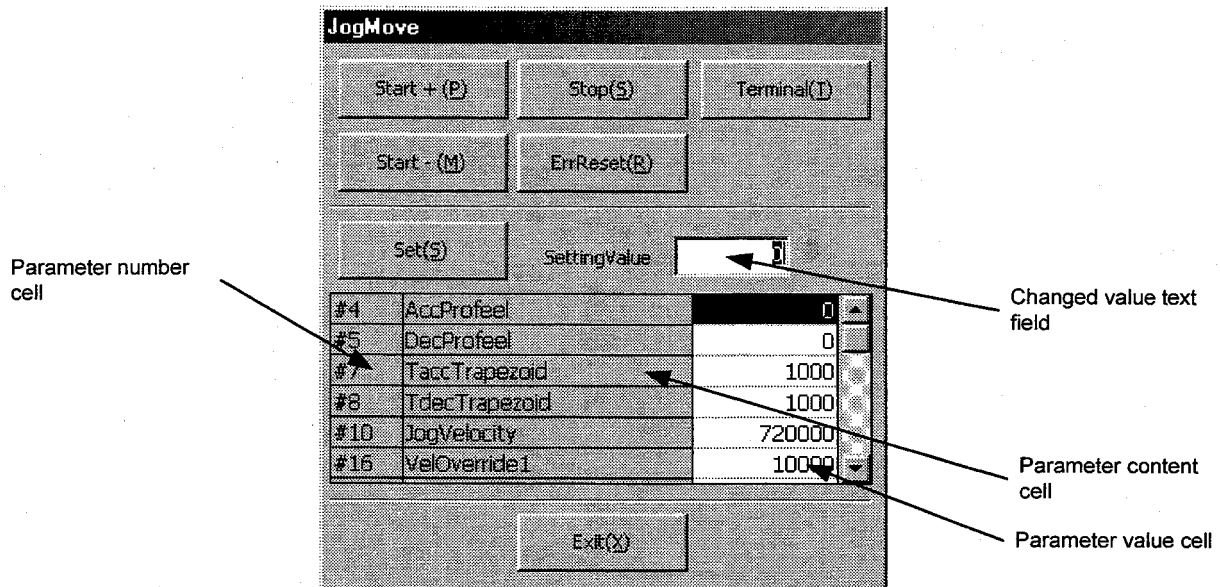

Figure 7.30 "JogMove" dialog box
- 1) Click "*Terminal (T)*."
Click "Jog (J)" in the "DriveMenu" dialog box to display the "JogMove" dialog box (see Figure 7.30). If the connection with the driver is established, the current values of the related parameters are read and can be edited.